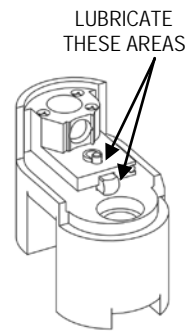

Figure 2
2. Prior to reassembly, the upper case assembly must be lubricated using a lubricant conforming to Department of Defense MIL-G21164. See Figure 2 for lubrication points.